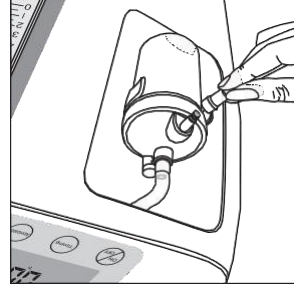

Figure 5
C. Connect your cannula to the humidifier bottle, as shown in the Figure 5.